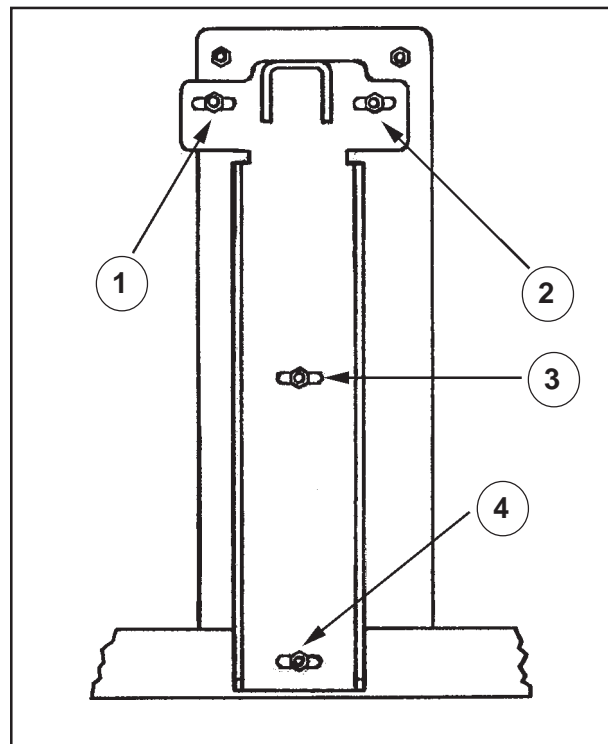

Figure 34
- d. Install the filter screen in the valve connector. Turn the connector to the right to connect the hose. See figure 34
- e. Open the solution flow valve. See figure 34.
6. Locate the four mounting studs on the brush head bracket. See figure 34. The top two mounting nuts can be accessed through the top of the solution tank. The lower two can be accessed through the front. Loosen the four mounting nuts 2 to 3 turns counterclockwise. NOTE: Do not remove mounting nuts.